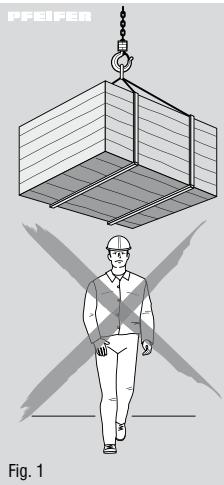
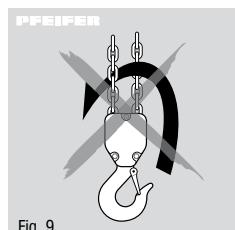

Fig. 1
Fig. 9
The load is lifted by pulling clockwise on the hand chain. Always suspend the load in the centre of the hook. Do not load the hook tips (Fig. 9).
- Do not load the hook tips (Fig. 9).
- Use in areas subject to explosive hazard (EX) is forbidden!
- Loads may not be lifted away over persons (fig.1).
Before starting to use equipment with two or more legs, make sure that the load chain is not twisted or crossed over. Twisting can also occur, for example, if the lower block has been turned over (fig. 9). If the chain is replaced, make sure that the new chain runs properly.